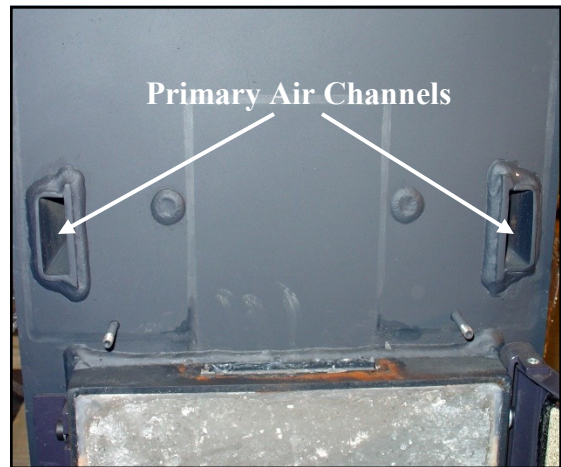

Fig. 4.13 Primary Air Channels
2. The air channels (**Fig. 4.13**) can then be cleaned with brush provided.